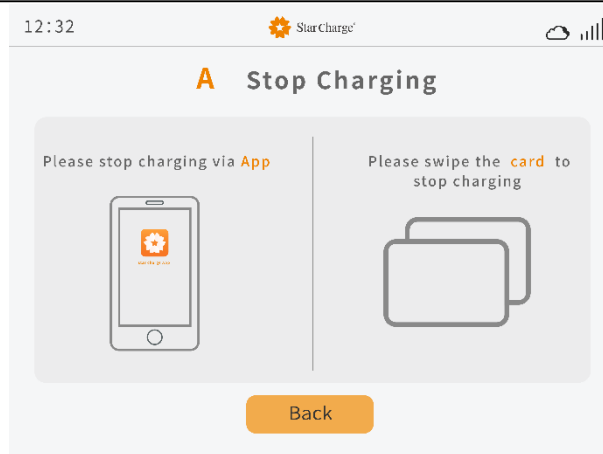

Figure 3-5 Stop charging interface
Step 4: Swiping card to stop charging: Click "Stop" to enter the stop charging interface, and swiping card again to stop charging, as shown in Figure 3-5.